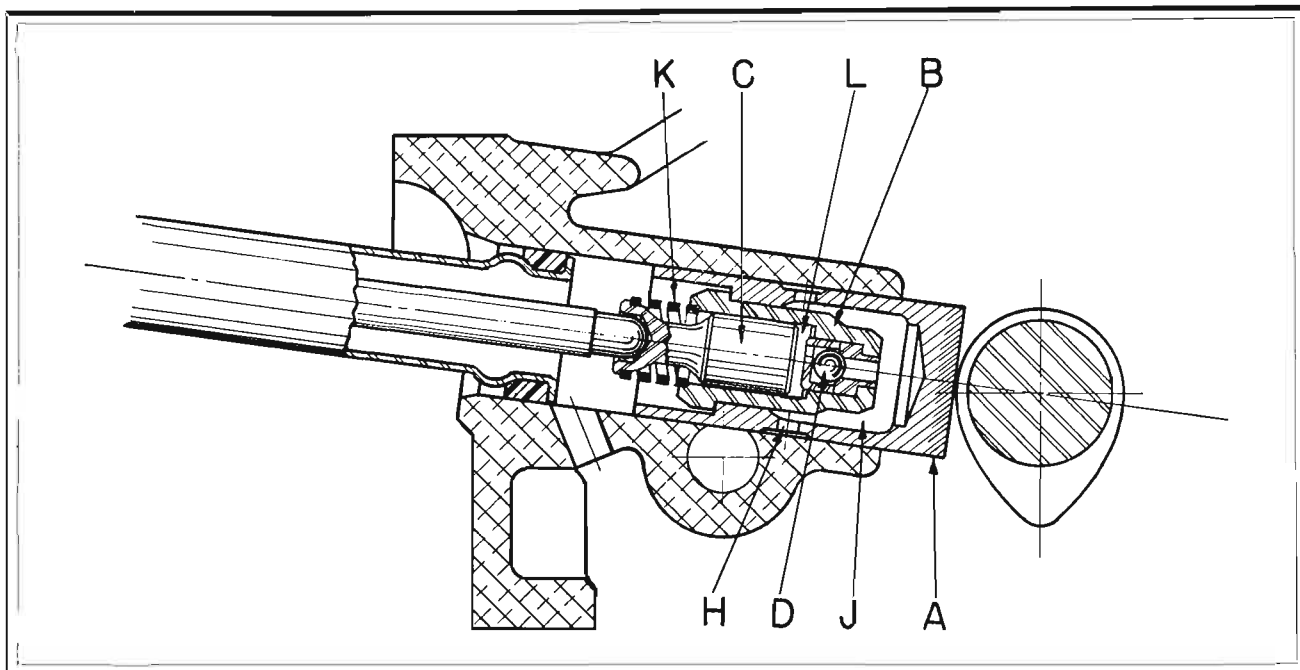

Fig. 1: ZERO-LASH HYDRAULIC LIFTER in Franklin Aircraft Engines
1. The outer portion or body (A) Fig. 1, similar to manually adjusted types of lifters except for having a straight, machined hole to receive the hydraulic unit instead of a threaded hole for an adjusting screw
2. The hydraulic unit itself, comprising cylinder (B), plunger (C), ball check valve (D), and plunger spring (K).
(Refer to Fig. 1)
With the face of the lifter on the base circle of the cam, and the engine valve seated as shown in Fig. 1, the light plunger spring (K) lifts the hydraulic plunger (C) so that its outer end contacts the push-rod socket taking up the clearance at this point, and all along the valve train, giving zero lash. As the plunger (C) moves outward, increasing the volume of the oil in the pressure adjusting chamber (L), the ball check valve moves off its seat and oil from the supply chamber (J) flows in and fills chamber (L).